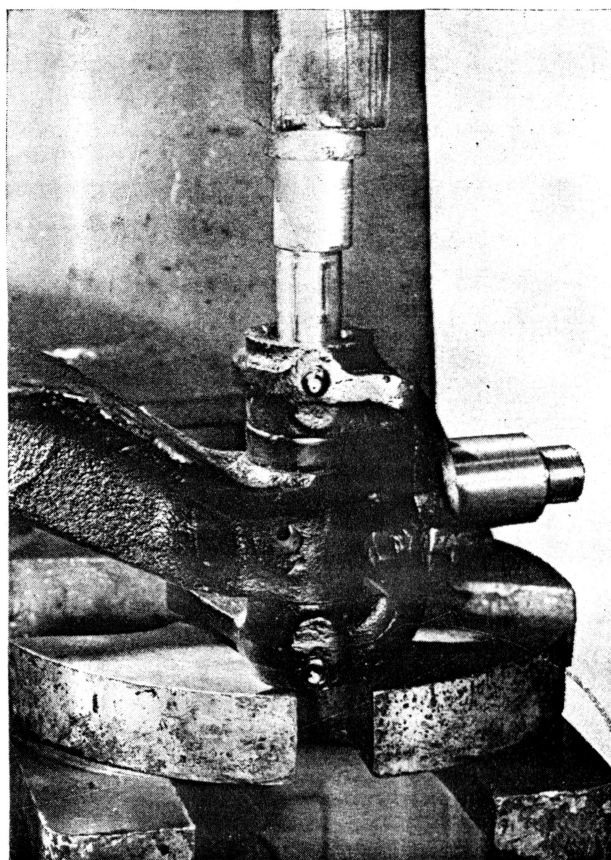

Fig. 37
D. Press steering knuckle pin into place, being certain that slot in pin aligns with hole in axle center for draw key. (Refer to Fig. 37.)